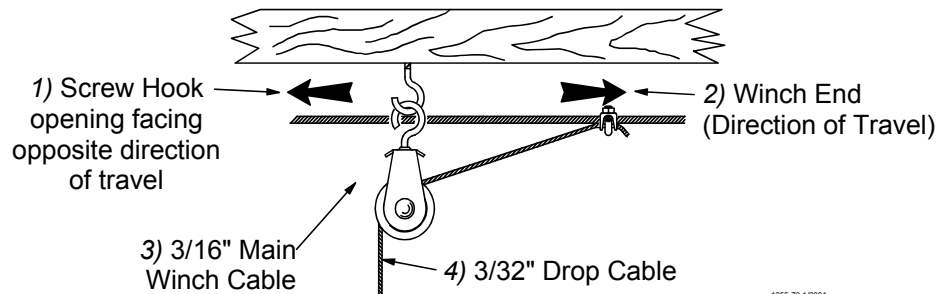

Figure 13. Screw Hook Installation
The openings of the screw hooks must be pointed away from the direction of travel when the Power Winch raises the feeder line. **See Figure 13.**
2. Thread the end of the 3/32" or 1/8" cable through the pulley toward the winch. Clamp this end to the 3/16" winch cable about 6" [150 mm] from the last pulley, using a 3/16" cable clamp. See applicable figure; **Figure 13 or 19**.